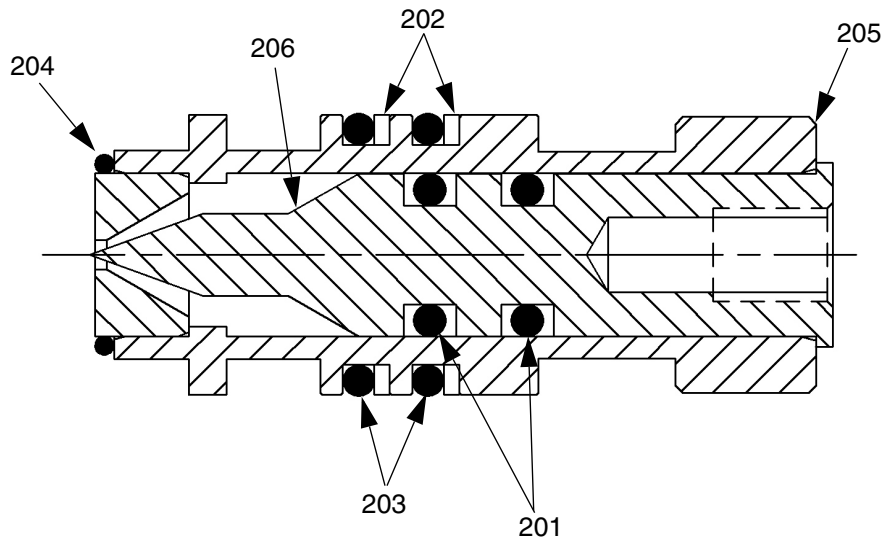

FIG. 4
See FIG. 4 on page 12.
- b. Holding on to 1/4-20 bolt, pull needle (206) out rear of needle housing (205). See FIG. 4 on page 12.